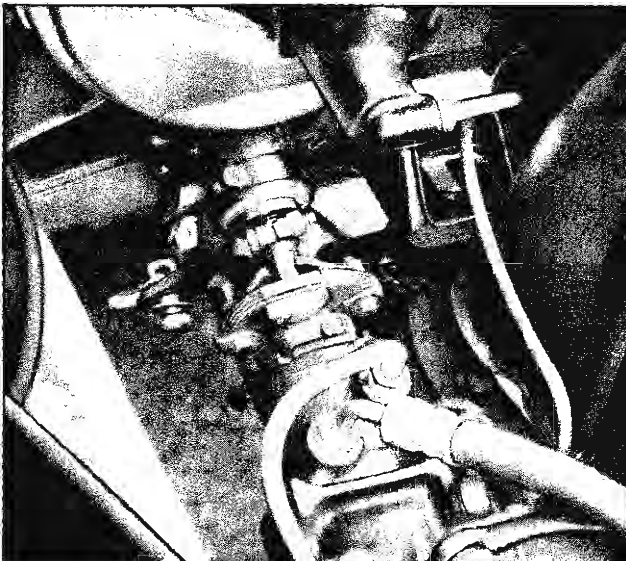

Fig. 11—Steering Coupling
3. Remove the two retaining nuts, bolts, reinforcements, and lock washers (fig. 11). Separate the lower "split-clamp" and, remove the wafer type coupling and two locking pins.